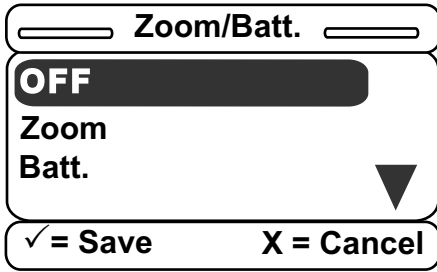

Figure 30 – Zoom/Batt. menu
- After you select the **Zoom/Batt.** option, the **Zoom/Batt.** menu displays (Figure 30). You can set this option to OFF, **Zoom**, or **Battery Backup**. Scroll up or down to select one of the three available items and press **Enter** on the footboard panel.